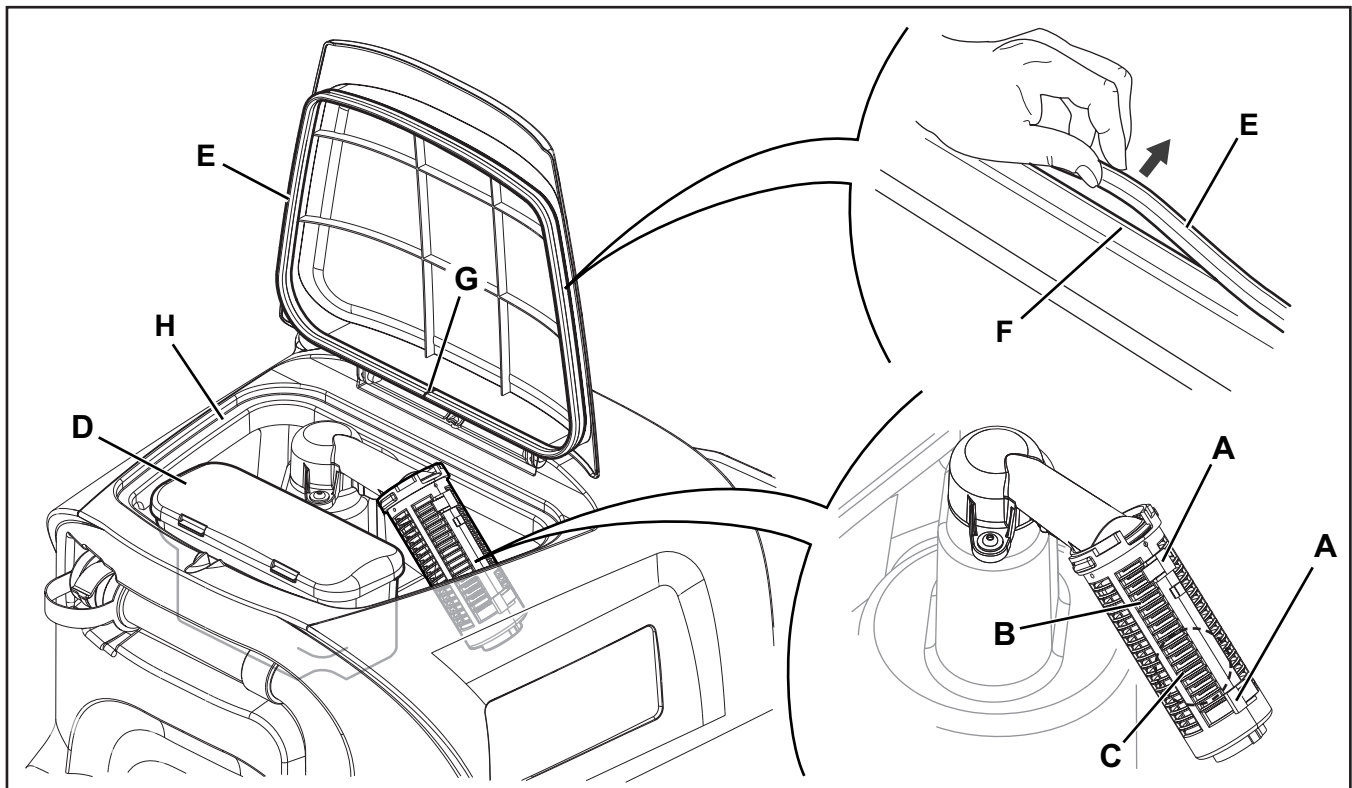

Figure 4
4. Clean the vacuum grid (B) (Figure 4), release the fasteners (A), open the grid (B) and recover the float (C), then clean carefully and reinstall.
5. Remove the debris collection tank (D) and open its cover, then clean it carefully.
8. Check the condition of the tank cover gasket (E).